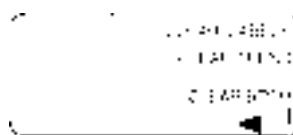

Figure 5
- Labels are cleared from the labels screen by accessing the “Viewable SpO₂ Trend” screen OR the “Labels” screen, and pressing the “Clear” button. Then select either “Clear Labels” or “Clear Both” (Figure 5).